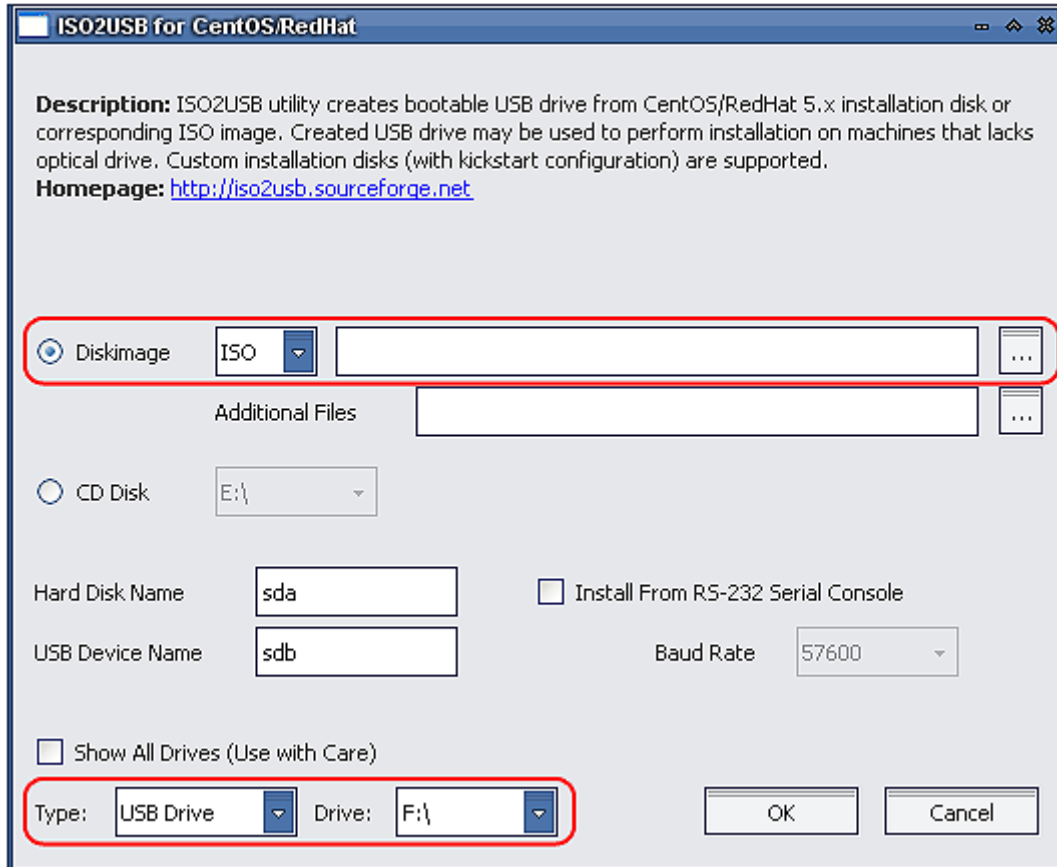

Figure 3: creating bootable flash drive.
- iii. Create bootable USB flash drive with Installation package using iso2usb tool (<http://www.myaudience.com/downloads/utis/iso2usb.exe>). Open Installation package, select an appropriate USB drive and press "OK" (Figure 3)